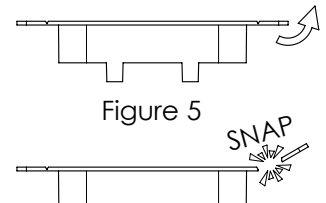

Figure 5
- (Optional) Snap-off edges.** Using the integrated bend lines, the outer edges may be removed if more clearance is needed (Figure 5 and 6)